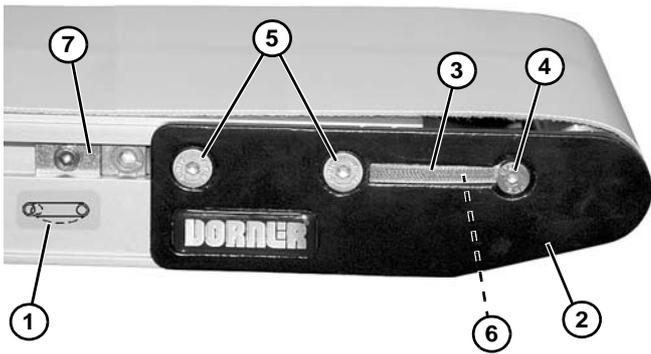

Figure 54
1. On tension end of the conveyor, identified with a  label (Figure 54, item 1), adjust headplate assembly (Figure 54, item 2):
- a. If equipped with dust covers (Figure 54, item 3), remove screw (Figure 54, item 4) and dust cover on both sides of conveyor. Reinstall screw (Figure 54, item 4).
- b. On both sides of conveyor, loosen fastening screws (Figure 54, item 5) and rotate pinion gear (Figure 54, item 6) to adjust headplate assembly.
3. After adjusting proper tensioning, tighten fastening screws (Figure 54, item 5) on both sides of conveyor to 7 Nm.
4. If equipped, install dust covers (Figure 54, item 3).
5. If equipped with cam tracking assemblies (Figure 54, item 7), position against headplates and adjust belt tracking. Refer to “Conveyor Belt Tracking” on page 26.